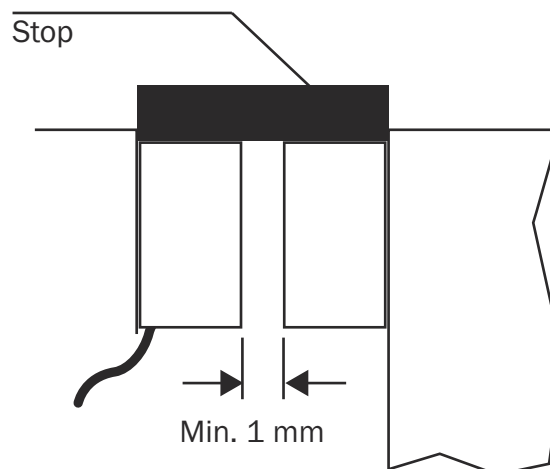

Figure 5: Mounting example for safety switch and actuator
- ▶ Fit an additional stop and guide for the moving part of the protective device (figure 5).